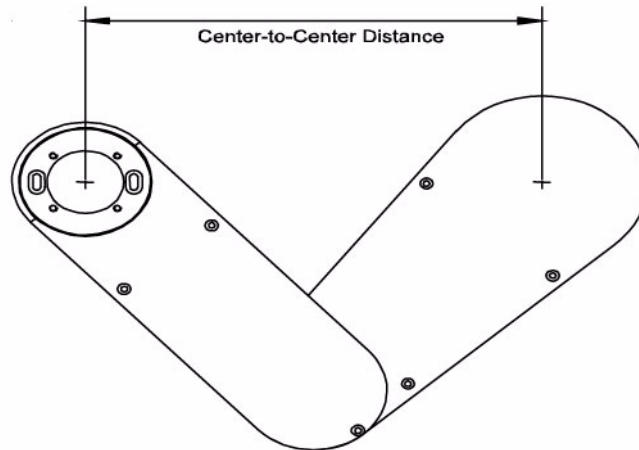

Figure 7-2: Center to Center Distance
3. Turn the radial servo OFF. Physically position the arm (Figure 7-2) to the measured or desired distance describe in Step #1.